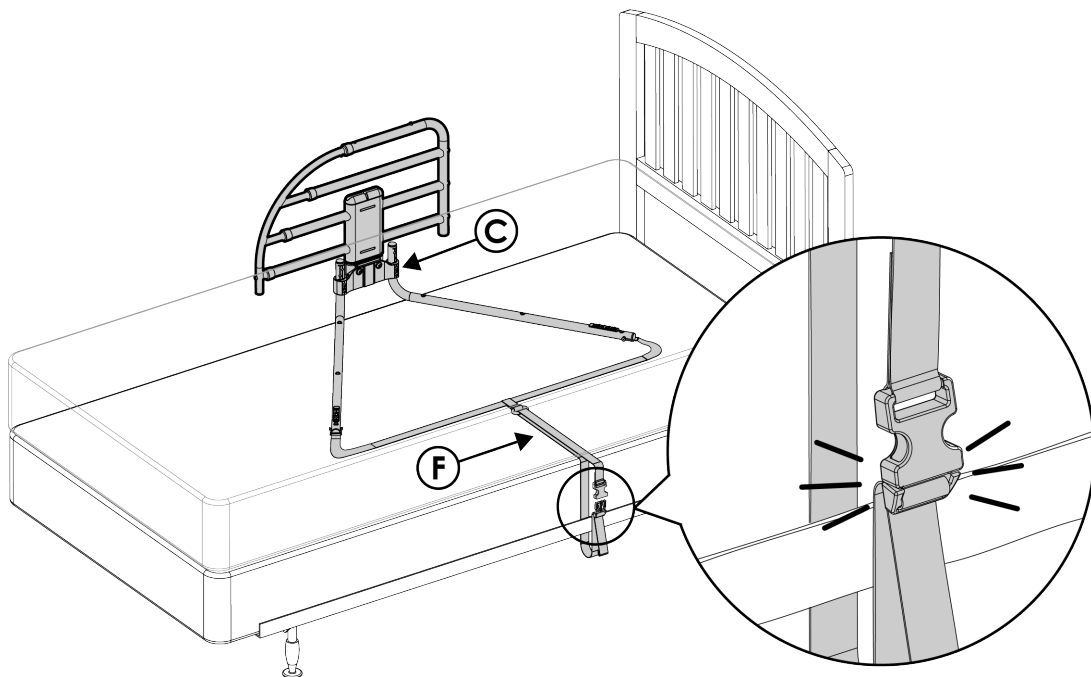

FIGURE 9
9. Loop SAFETY STRAP (**F**) around bed frame, re-buckle and tighten SAFETY STRAP to secure Bedrail product against side of the mattress as shown in *FIGURE 9*.